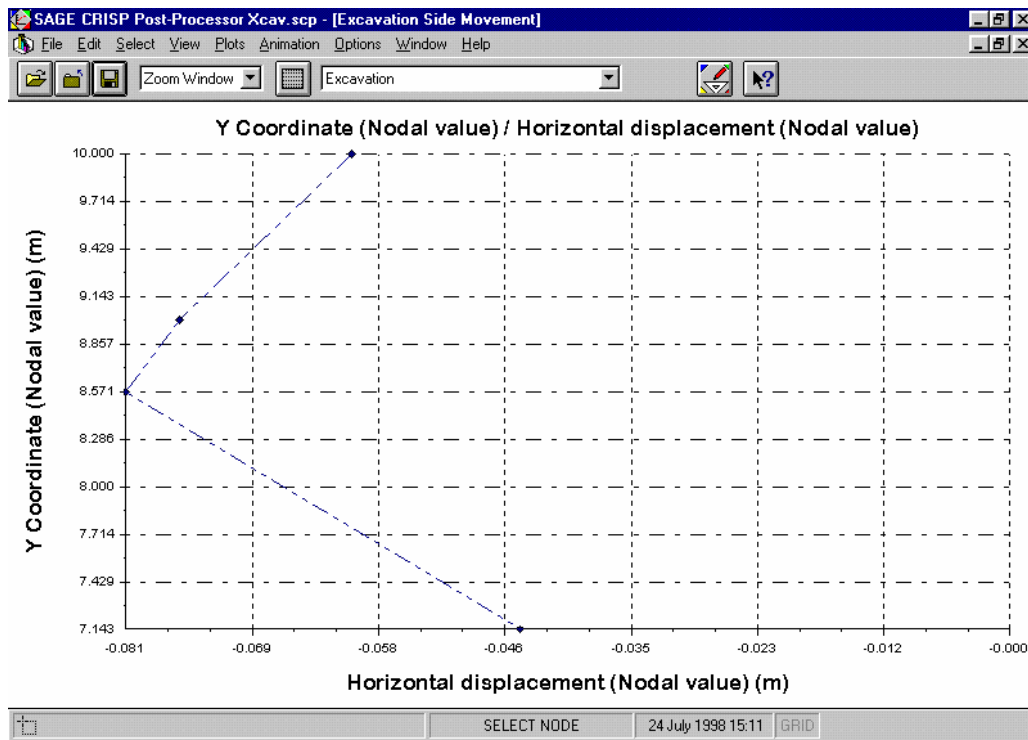

Figure 5-27: Horizontal Displacements of excavation side.
- Step 16** Click on **OK** to exit, once you have finished. You should see a graph similar to that displayed in Figure 5-27.